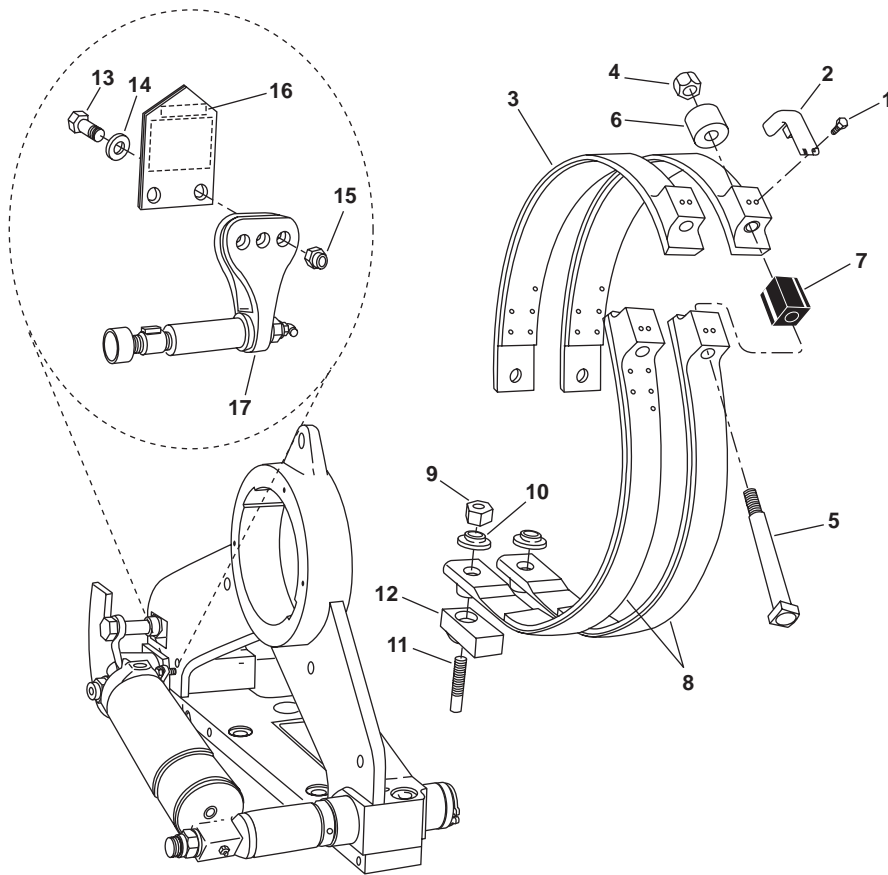

Figure 2. Hydraulic Brake
8. Remove the four bolts (figure 2, item 1) from the two nut locking plates (figure 2, item 2).
9. Remove the two nut locking plates (figure 2, item 2) from the two upper brake bands (figure 2, item 3).
10. Remove the two nuts (figure 2, item 4) from the two brake adjusting bolts (figure 2, item 5).
11. Remove the two spacers (figure 2, item 6) from the two brake adjusting bolts (figure 2, item 5).
12. Remove the two brake band spacers (figure 2, item 7) from the two brake adjusting bolts (figure 2, item 5).
13. Remove the two brake adjusting bolts (figure 2, item 5) from the two upper brake bands (figure 2, item 3) and the two lower brake bands (figure 2, item 8).
14. Remove the two nuts (figure 2, item 9) and the two washers (figure 2, item 10) from the two deck mounted studs (figure 2, item 11) and the lower brake bands (figure 2, item 8).
15. Remove the two lower brake bands (figure 2, item 8) from the two deck mounted studs (figure 2, item 11).
16. Remove the two deck spacers (figure 2, item 12) from the two deck mounted studs (figure 2, item 11).
17. Remove the two bolts (figure 2, item 13), the two washers (figure 2 item 14), and the two nuts (figure 2, item 15) from the pointer (figure 2, item 16), the link head (figure 2, item 17) and the two upper brake bands (figure 2, item 3).
18. Remove the pointer (figure 2, item 16) from the link head (figure 2, item 17).
19. Remove the two upper brake bands (figure 2, item 3) from the link head (figure 2, item 17).
1. Install the pointer (figure 2, item 16) and the two upper brake bands (figure 2, item 3) on the link head (figure 2, item 17) using the two bolts (figure 2, item 13), the two washers (figure 2, item 14), and the two nuts (figure 2, item 15).
2. Install the two deck spacers (figure 2, item 12) on the two deck mounted studs (figure 2, item 11).
3. Install the two lower brake bands (figure 2, item 8) on the two deck mounted studs (figure 2, item 11).
4. Install the two washers (figure 2, item 10) and the two nuts (figure 2, item 9) on the deck mounted studs (figure 2, item 11) and the lower brake bands (figure 2, item 8).
5. Install the two brake adjusting bolts (figure 2, item 5) through the two lower brake bands (figure 2, item 8), the two brake band spacers (figure 2, item 7), the two upper brake bands (figure 2, item 3), and the two spacers (figure 2, item 6).
6. Install the two nuts (figure 2, item 4) on the two brake adjusting bolts (figure 2, item 5). Do not tighten the nuts.
7. Check the pointer (figure 2, item 16) to see if the upper brake bands (figure 2, item 3) and the lower brake bands (figure 2, item 8) are evenly spaced. If the brake bands are not spaced correctly, adjust the brake bands until they are evenly spaced on the pointer. Do not tighten the nuts (figure 2, item 4).
8. Tighten the two nuts (figure 2, item 4) on the brake adjusting bolts (figure 2, item 5) until the measurement from the face of the hydraulic cylinder (figure 1, item 16) and the end of the rod (figure 1, item 17) is 5 in (127 mm). After ten braking operations, adjust the brake to 4.61 in (117 mm).
9. Install the two nut locking plates (figure 2, item 2) on the two upper brake bands (figure 2, item 3).
10. Install the four bolts (figure 2, item 1) in the two nut locking plates (figure 2, item 2).